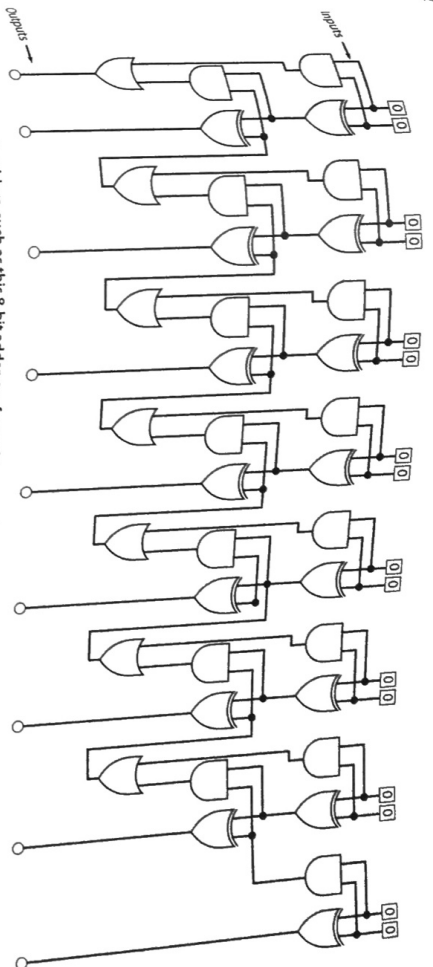

Figure 10.16 | Large scale adders, such as this 8-bit adder, are formed by cascading many half and full adders.
Figure 10.16 shows the circuitry for a larger but relatively simple 8-bit adder (for example, $10000111 + 10000100 = 100001011$). An 8-bit adder is capable of adding any two 8-bit numbers together. Notice how the number of logic gates needed for this level of addition has increased dramatically. Because logic gates work at electronic speeds, this adder easily performs over 1.5 million additions per second. Nonetheless, in modern computing systems, this is slow. So, for faster computation, even more circuitry is required, adding substantially to the amount of the overall ALU circuitry. You can imagine how many gates would be necessary to add two 64-bit numbers together at high speeds, which is commonplace in desktop microprocessor chips. Also, keep in mind that we are examining only adder circuits. A full ALU will have considerable additional circuitry to support all the other mathematical and logical functions required.
5. Prove that the 8-bit adder circuitry shown in Figure 10.16 adds $10010111 + 11001010$ and produces an answer of 101100001 .